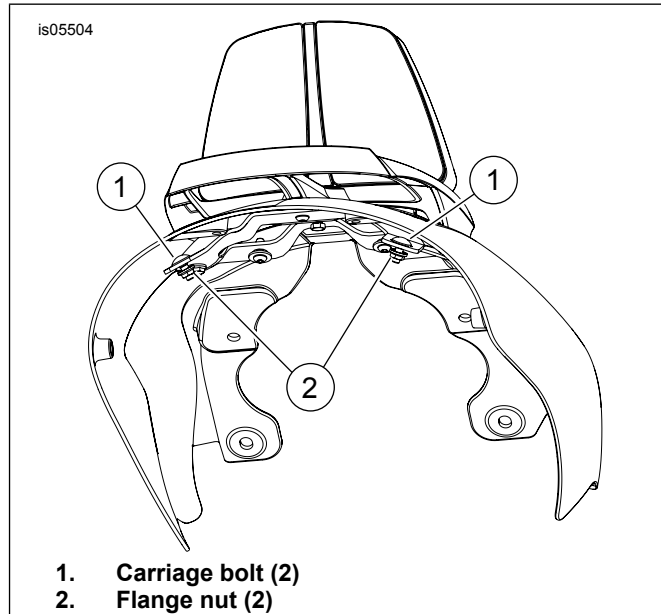

Figure 4. Install Carriage Bolts
3. See Figure 4. Install the carriage bolts (1) through the slots on the support bracket and the frame. Install the flange nuts (2) and tighten finger-tight.